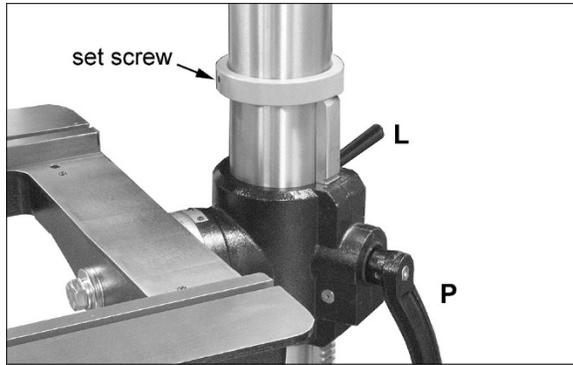

Figure 6-5
10. Place collar onto column and slide it down over top edge of rack. Tighten set screw on collar. Figure 6-5.
- Slide crank handle (P) onto protruding shaft of worm, and tighten set screw in handle with a 3mm hex wrench.
- Screw locking handle (L, Figure 6-5) into table bracket. Tighten locking handle to secure table bracket's position on column.
- Loosen handle (L, Figure 6-5) and turn crank handle counterclockwise to lower table to a convenient position near the head and tighten the locking handle. Place cardboard pieces atop the table to protect the surface.